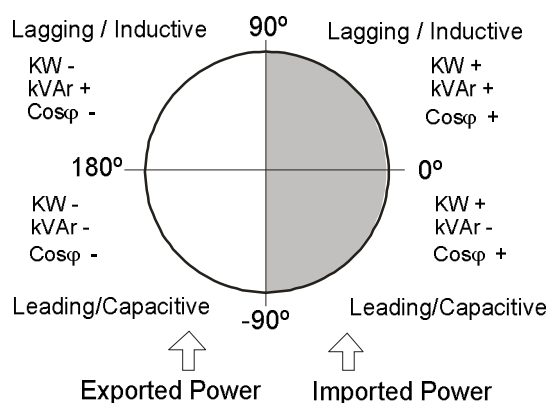

Fig. 2.1.- Power signs in four quadrants measurements
- Four quadrants control (see fig.2.1), display of the connected stages, of $\cos\phi$ and active and reactive power signs (inductive \sim or capacitive \cap)